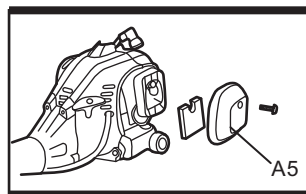

Fig. 19
2. Open the air filter case (A5) with the cross-head screwdriver (D1, D2), and remove the filter. (See Fig. 19)